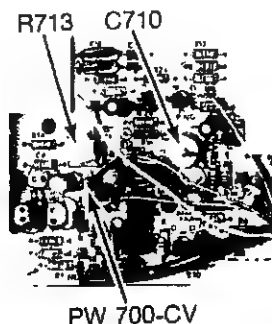

Fig. 4-2. — NLAC Adjust
2. Connect DC voltmeter to test stake PW 700-CV (Fig. 4-2).